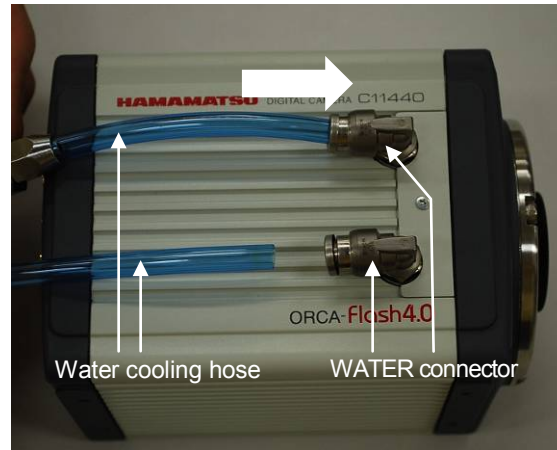

Figure 8-3
- (1) Place the camera on the stable table.
- (2) Connect water cooling hose into the WATER connector on the camera.
- Insert the hose fully into the WATER connector on the camera. (as shown in Figure 8-3)
- (3) Set the camera onto a microscope (If the camera is used on the microscope).